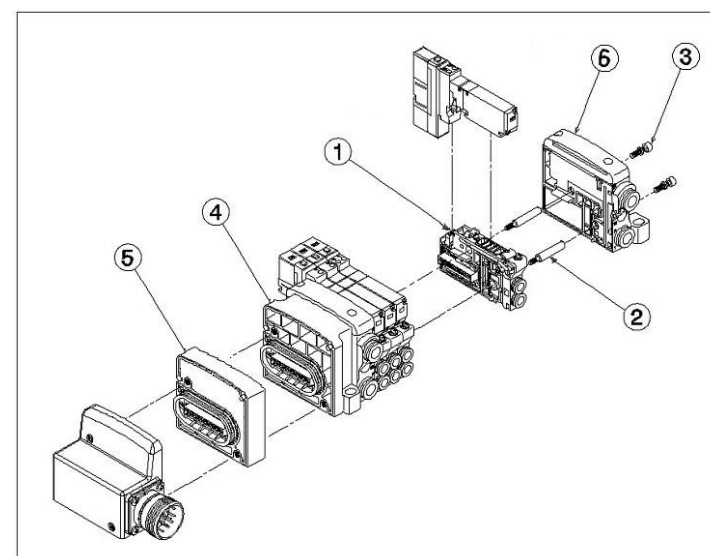

Figure 18
6.2 Adding manifold stations (see Figure 18)